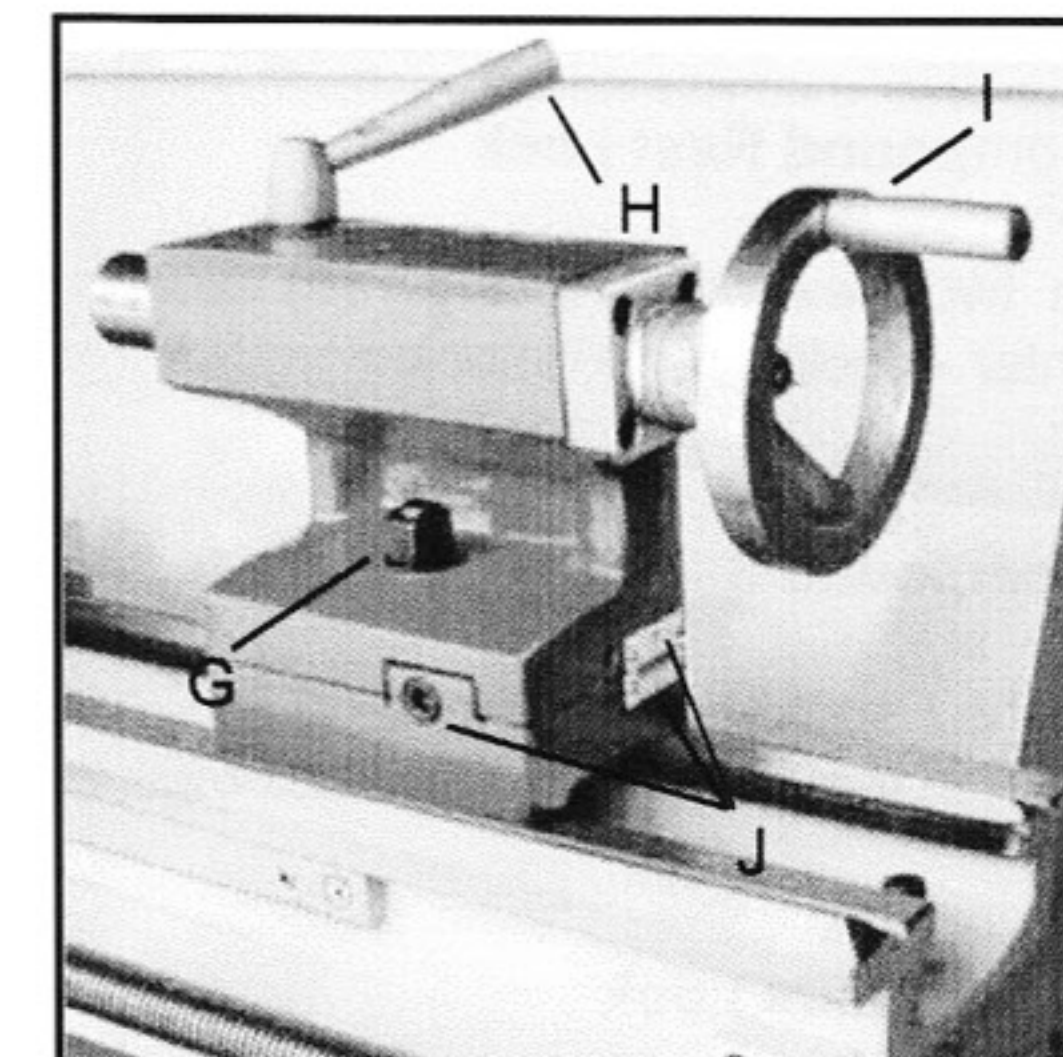

Fig. 16
16. Tailstock Clamping Screw (G, Fig. 16)
15. Tailstock Quill Clamping Lever (H, Fig. 16)
17. Tailstock Quill Traverse Handwheel (I, Fig. 16)
18. Tailstock Off-set Adjustment (J, Fig. 16)